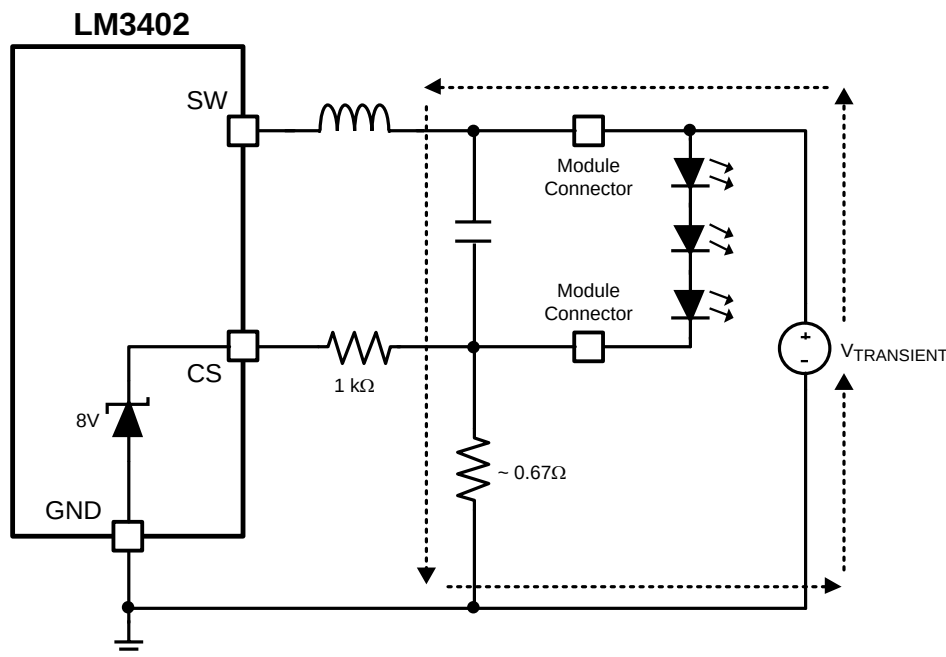

Figure 23. CS Pin, Transient Path With Protection
From measurements, we know that the 8V ESD structure on the CS pin can typically withstand 25mA of direct current (DC). Adding a 1-kΩ resistor in series with the CS pin, shown in Figure 23, results in the majority of the transient energy to pass through the discrete sense resistor rather than the device. The series resistor limits the peak current that can flow during a transient event, thus protecting the CS pin. With the 1-kΩ resistor shown, a 33-V, 49-A transient on the LED return connector terminal could be absorbed as calculated by: